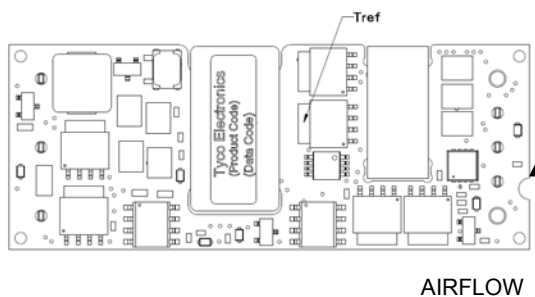

Figure 63. T_{ref} Temperature Measurement Location for open Frame Module.
To provide protection under certain fault conditions, the unit is equipped with a thermal shutdown circuit. The unit will shutdown if the thermal reference point T_{ref} (Figure 63), exceeds 125°C (typical), but the thermal shutdown is not intended as a guarantee that the unit will survive temperatures beyond its rating. The module can be restarted by cycling the dc input power for at least one second or by toggling the remote on/off signal for at least one second. If the auto-restart option (4) is ordered, the module will automatically restart upon cool-down to a safe temperature.
The thermal reference point, T_{ref} used in the specifications for open frame modules is shown in Figure 63. For reliable operation this temperature should not exceed 120°C.